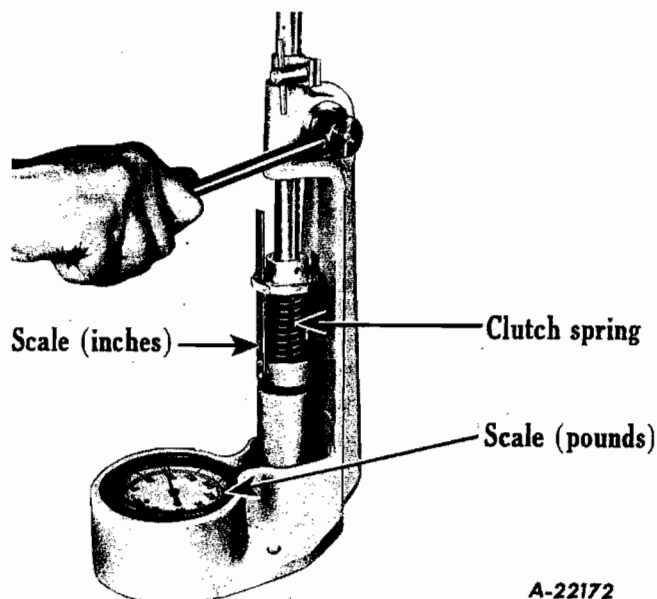

Fig. 15 - Check springs on SE-1565 Spring tester.
Clutch spring tester (Fig. 15) or similar unit should be used for testing springs, (F). They may also be tested by comparison with new springs. Discard those not of same length.